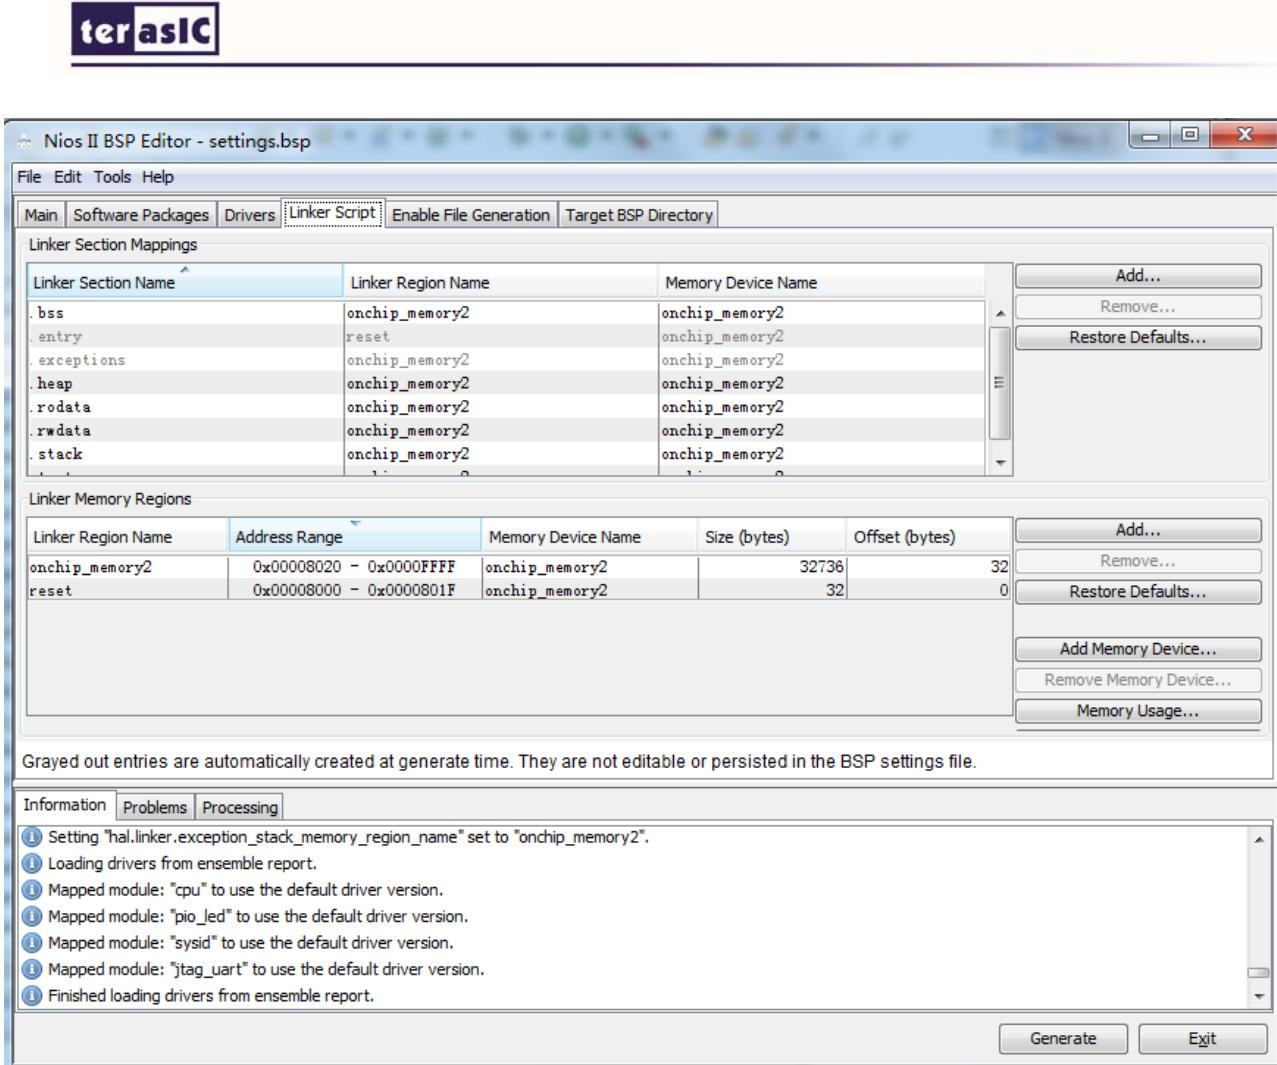

Figure 2-9 Configuring BSP
3. In the Linker Script box, observe which memory has been assigned for Program memory(.text), Read-only data memory(.rodata), Read/write data memory(.rwdta), Heap memory, and Stack memory, see **Figure 2-9**. These settings determine which memory is used to store the compiled executable program when the example My_First_NiosII programs runs. You can also specify which interface you want to use for stdio , stdin, and stderr. You can also add and configure an RTOS for your application and configure build options to support C++, reduced device drivers, etc.
4. Choose onchip_memory2 for all the memory options in the Linker Script box. See **Figure 2-9** for an example.